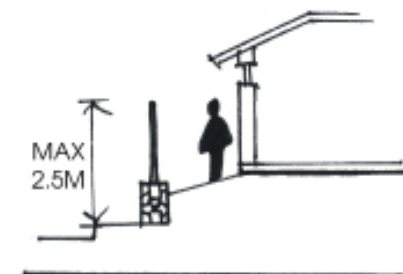

Figure 5
- A combined retaining wall and fence located on the boundary of a public road or reserve must not exceed 2.5 metres in height (see figure 5 sketch).